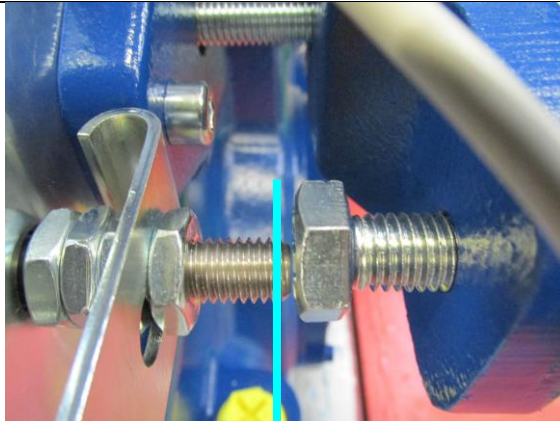

Fig. 9
(Ref. 6.4.6 and Fig. 9).
1. Force the Solenoid Plungers back and measure the clearance between the Plungers and the Pressure Bolts (Fig. 9).